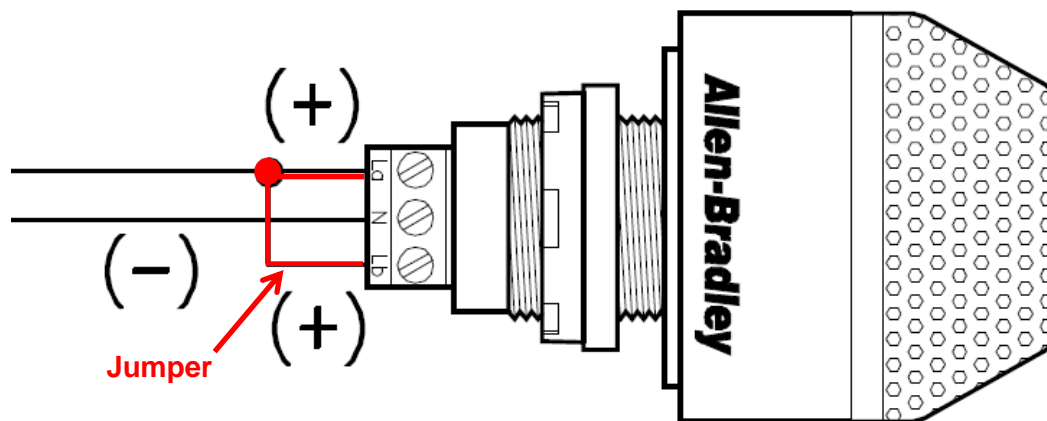

Figure 4-9
C. The RSL must be wired for “solid light” operation, by placing a jumper between the La and Lb terminals on the light per Figure 4-9.